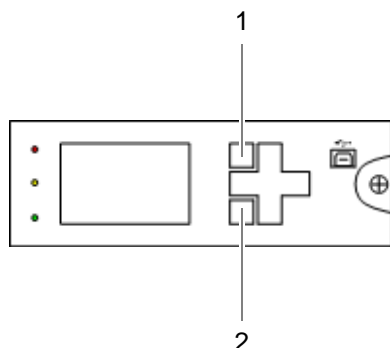

Figure 11.28 SC200 – Softkeys
1. Press softkey 1 to open the main menu, refer to Figure 11.28 on page 210.